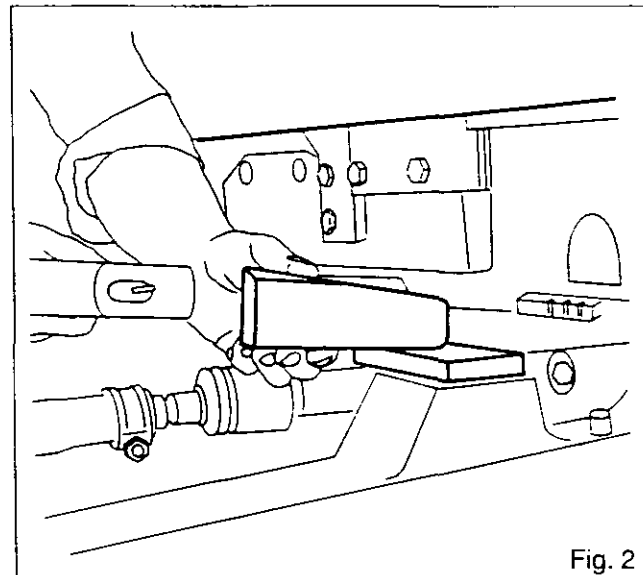

Fig. 2
- . fit wedges between the frame and the front axle (Fig.2)